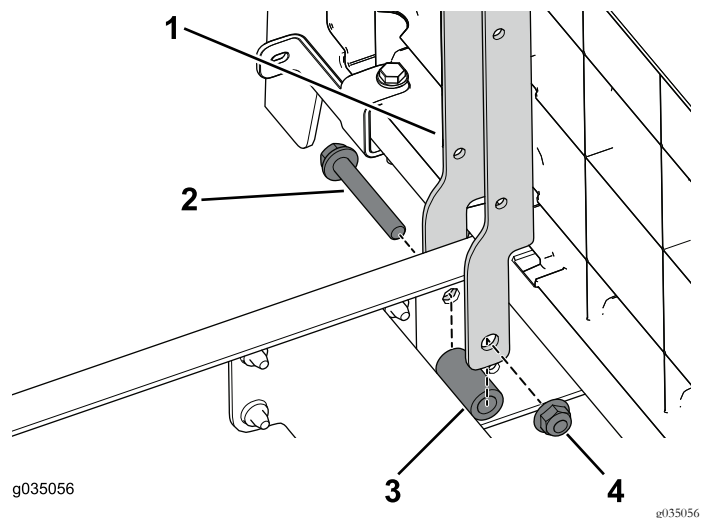

Figure 92
1. Use the 2 bolts (3/8 x 2-1/2 inches), spacers, and flange nuts to secure the left and right seat supports to the front section of the machine (Figure 92).